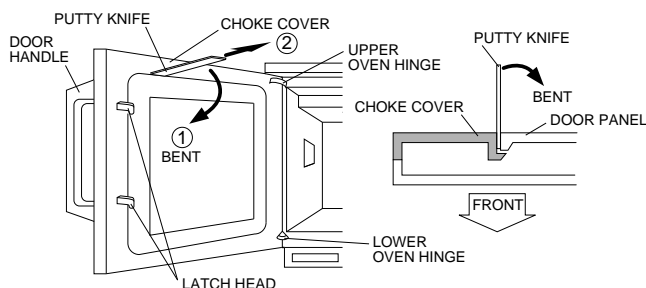

Figure C-4. Choke cover
1. Open the door and insert a putty knife (thickness of about 0.5mm) in gap between the choke cover and corner portion of door panel to free engaging parts. Refer to Fig. C-4.